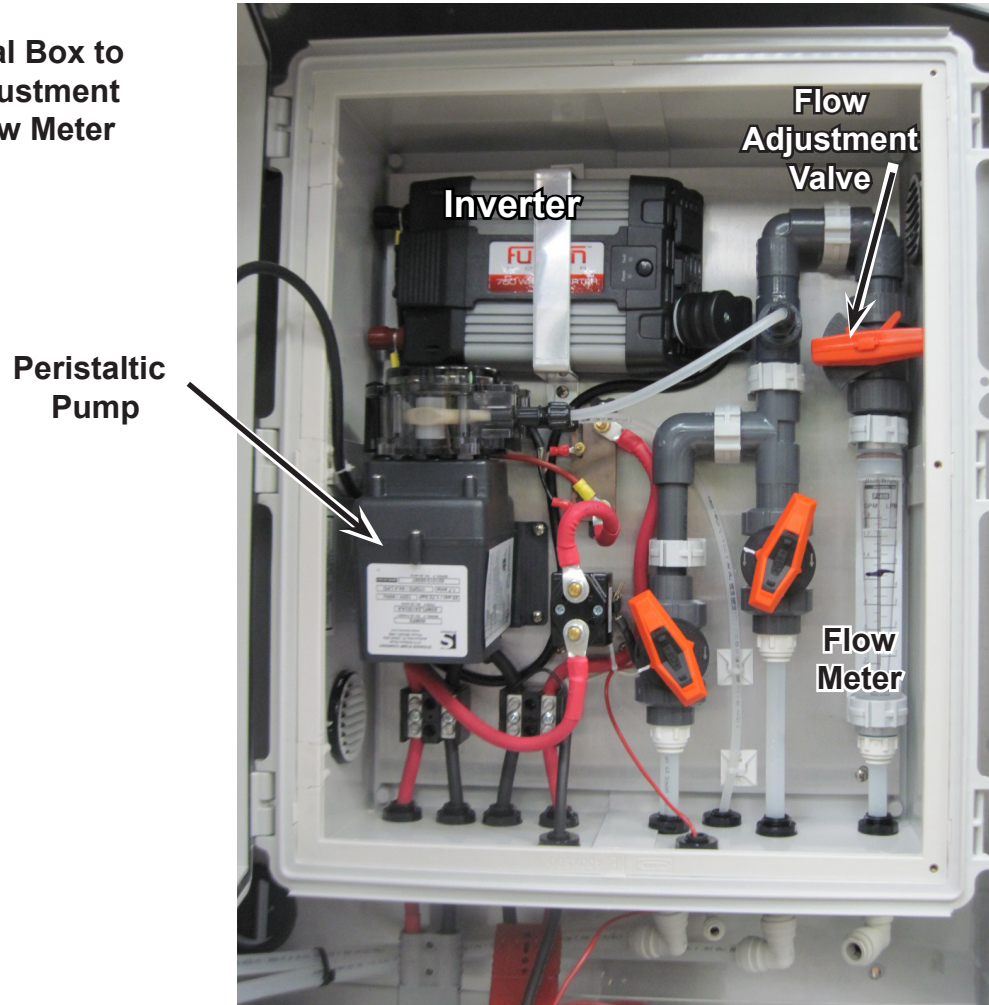
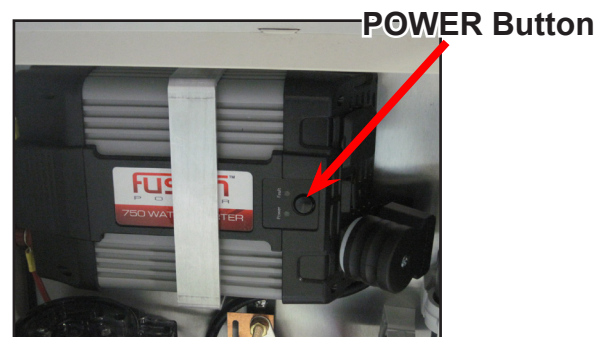

Figure 114. Location of Flow Meter in Electrical Box
Figure 116. Inverter POWER Button
5. Turn on the outside faucet and adjust via the Flow Adjustment Valve located in the EWS Electrical Box. The incoming water flow to the system, as indicated on the flow meter, should read 1.2 gpm (see Figure 114).
8. Check that the inverter, located in the EWS Electrical Box (see Figure 116), is 'ON' (POWER button showing green) and that the peristaltic pump (see Figure 114), also located in the EWS Electrical Box, is operating (test that the 'ON' switch is really 'ON' if the pump is not visibly turning).